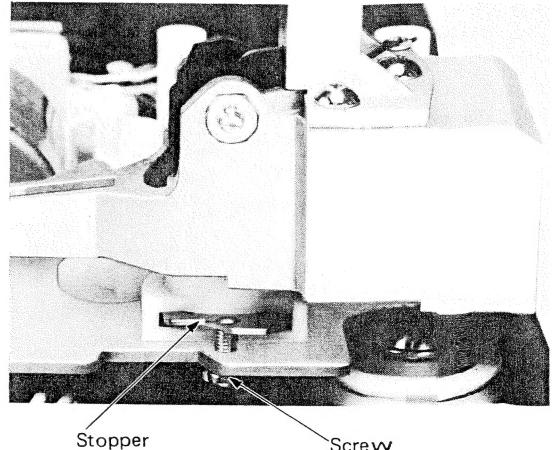

Fig. 16
- Untighten the screw shown in Fig. 16, then pull out the stopper.